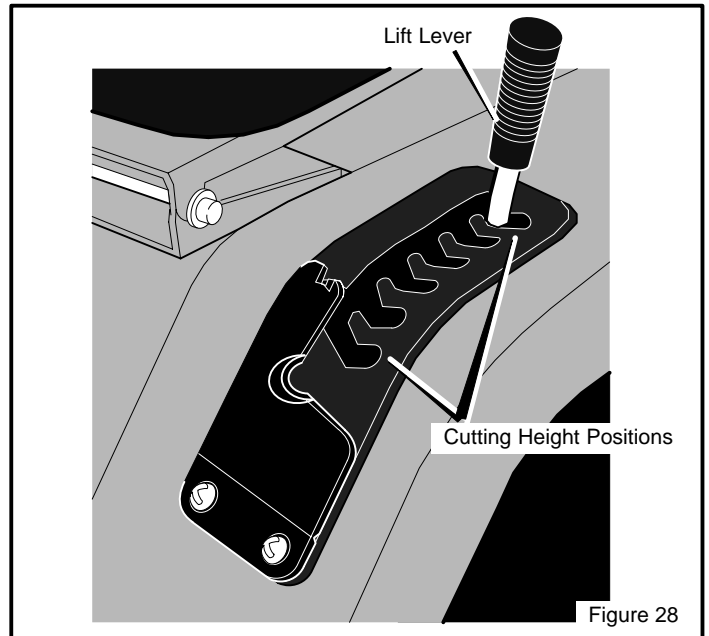

Figure 28
2. Mow a short distance on a flat level area to check the level of cut and the height of cut. Look at the **height of cut position number** on the **lift lever** (Figure 28).